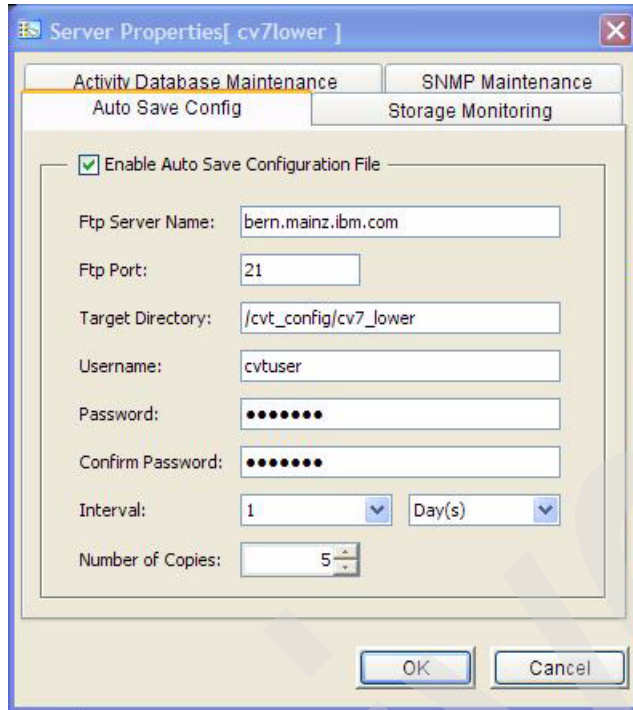

Figure 12-14 Auto save configuration
2. In the window shown in Figure 12-14 on page 386, select the **Auto Save Config** tab. This is configured to use ftp to transfer the file to a location of your choice. We recommend that a minimum of one copy per day is sent to this location.